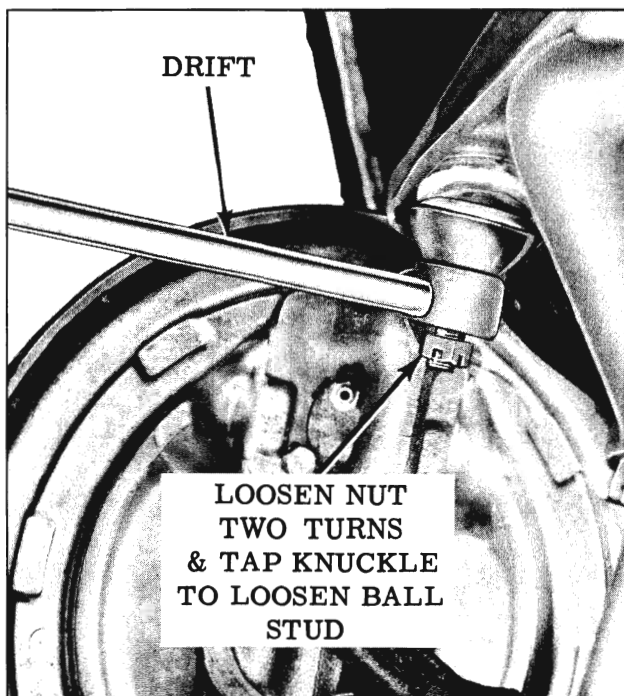

Fig. 5-104 Removing Ball Joint Stud
- b. Loosen the upper and lower joint nuts, two turns, do not remove, then tap knuckle with a brass drift at ball joint stud. (Fig. 5-104) This will loosen stud from steering knuckle.
6. Disconnect the lower control arm ball joint from the steering knuckle. (Fig. 5-104)
2. Remove ball joint stud from steering knuckle as shown in Fig. 5-104 or with the use of Tool BT-61-21.
3. Disconnect ball joint from knuckle by tapping knuckle with a drift at the stud. (Fig. 5-104)